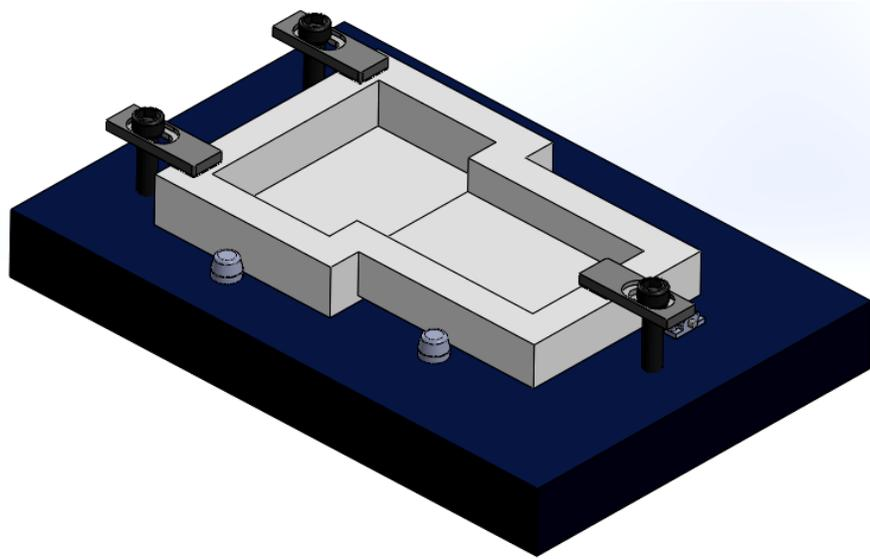

Figure 2
Please refer to the Figure 2 to answer question 4 (a) and (b).
- (a) The fixture in Figure 2 is large and heavy. The fixture needs to be moveable from machine to other machine. Design a solution for the fixture to solve the large, heavy and to be moveable issues. Sketch and explain your answer.
- (b) The fixture in Figure 2 needs to be mounted on a milling machine table where it can perform its job. Design a solution for the fixture that can be fixed on the milling machine table. Sketch and explain your answer.